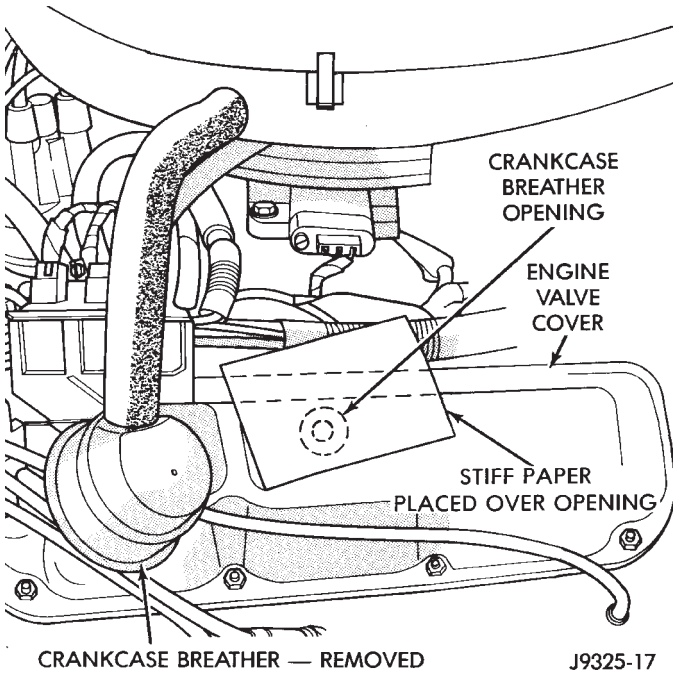
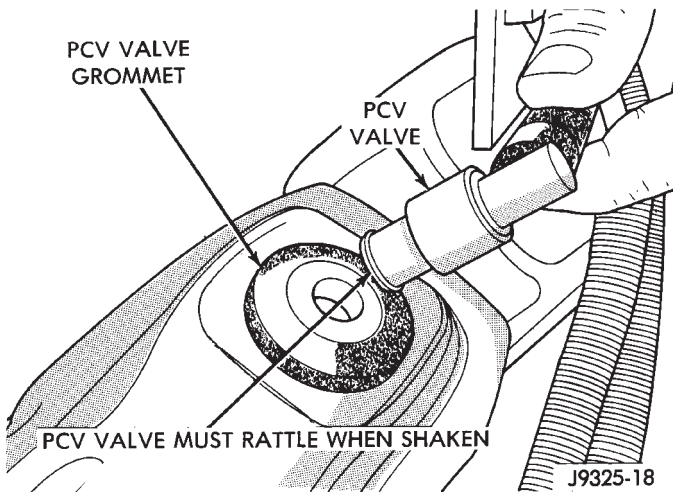

Fig. 14 Check Vacuum at Crankcase Breather Opening—Typical
Fig. 15 Shake PCV Valve—Typical
(2) Install the PCV valve. Remove the crankcase breather/filter. Hold a piece of stiff paper, such as a parts tag, loosely over the opening of crankcase breather/filter at the cylinder head (valve) cover (Fig. 14).
(3) The paper should be drawn against the opening in the cylinder head (valve) cover with noticeable force. This will be after allowing approximately one minute for crankcase pressure to reduce.
(4) Turn engine off and remove PCV valve from cylinder head (valve) cover. The valve should rattle when shaken (Fig. 15).